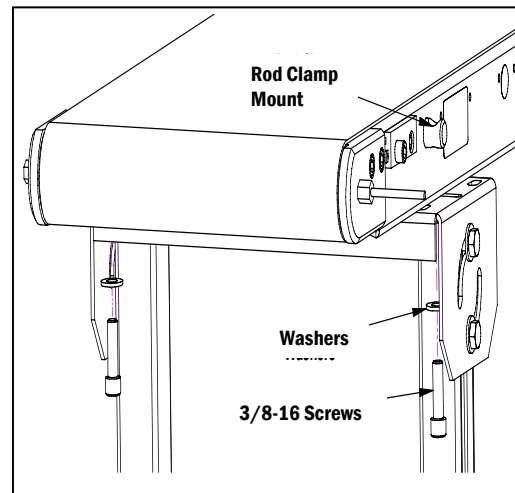

Figure 1
① Rod Clamp Mounts on Steel Telescoping Stands
- Thread the screw from below the Steel Stand Top Plate or other mounting surface through the washer and into the tapped hole in the rod (Figure 1).